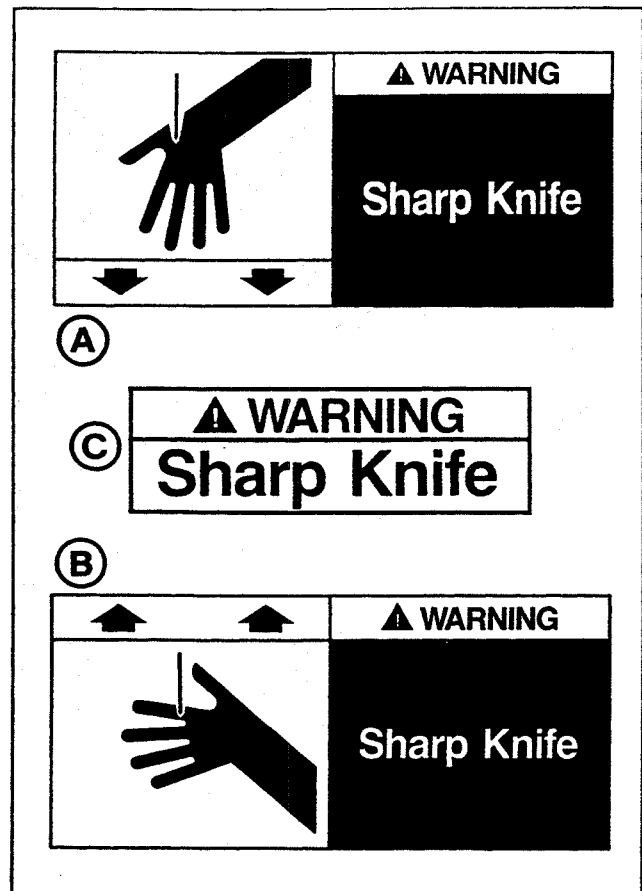

Figure 1-1 - Knife Warning Labels
The two illustrated labels (A-B), "Warning Sharp Knife" shown in figure 1-1, are attached to the sides of the upper frame at the location of the cut-off blade on the upper taping head. Two similar labels are attached to the bed frame at the location of the cut-off blade on the lower taping head. The labels warn operators and service personnel of the very sharp knife used to cut the tape at the end of the tape application.
The "Warning - Sharp Knife" label (C), shown in figure 1-1, is attached to the orange cut-off blade guard on both taping heads. The label warns the operator and service personnel of the very sharp knife located behind the guard and to keep hands out of this area except for tape loading and/or servicing the taping heads.